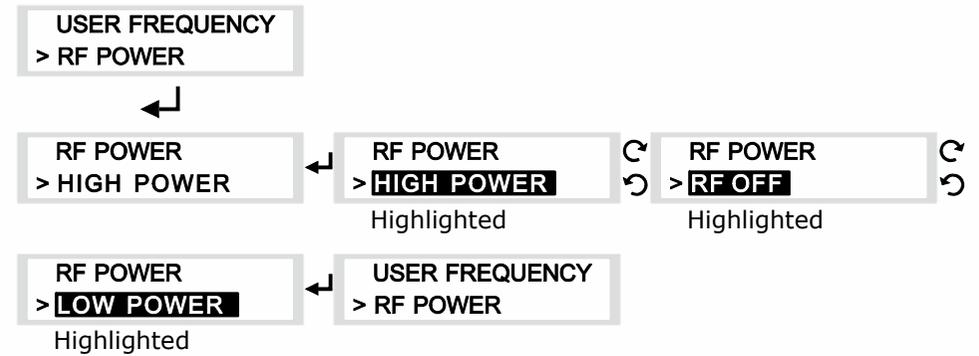

Fig. 10
- (1) Locate USER FREQUENCY menu, press to activate setting.
- (2) Press to enter setting (highlighted in black). Press to save.
- (3) Frequency selection: adjustable in increments of 1 MHz or 25 kHz.
- (4) Once saved, indicator returns to listed menus.
- (5) Notes:
(C) RF POWER: Radio frequency power settings, Fig. 10